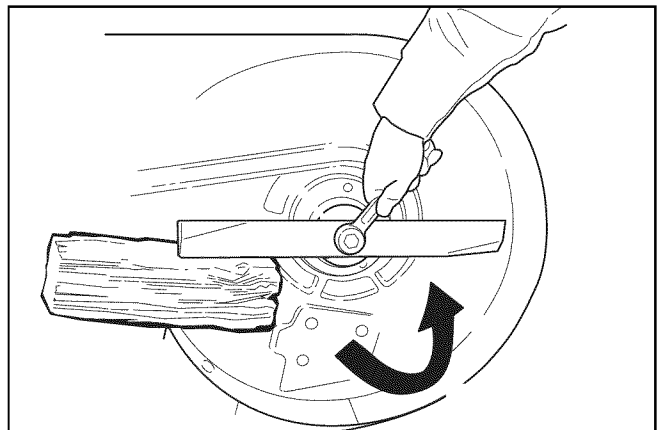

Figure 20. Loosening the Mower Blade for Removal
1. See Figure 20 To remove the mower blade, wedge a wooden block between the mower blade and the mower deck housing to keep the mower blade from turning, then remove the mower blade and the mower blade retaining hardware.